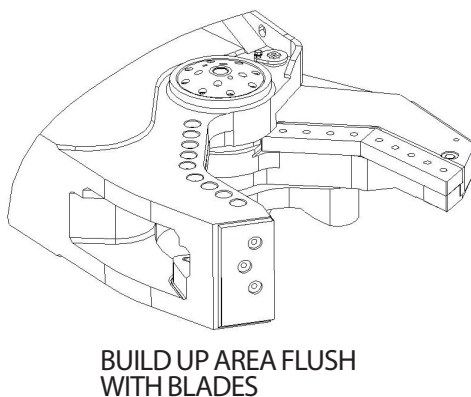

FIGURE 5-23
2. To determine how much build up is required along the blade seats, place a straightedge across the blades. Repeat steps 4 and 5 to build this area flush with the blade (see Figure 5-23).